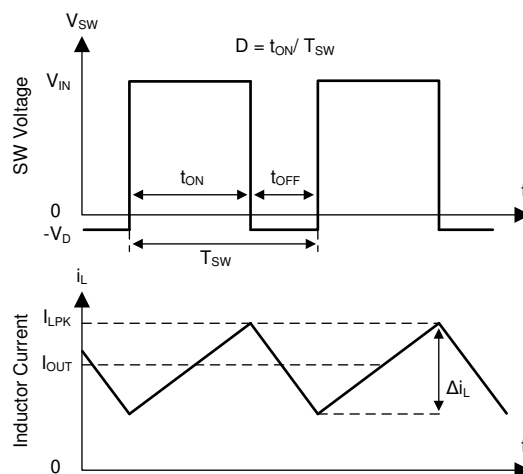

Figure 7-1. SW Node and Inductor Current Waveforms in Continuous Conduction Mode
The following operation description of the LM76005 refers to Section 7.2 and to the waveforms in Figure 7-1. The LM76005 supplies a regulated output voltage by turning on the internal high-side (HS) and low-side (LS) NMOS switches with varying duty cycle (D). During high-side switch on-time, t_{ON} , the SW pin voltage V_{SW} swings up to approximately V_{IN} , and the inductor current, i_L , increases with linear slope. The HS switch is turned off by the control logic. During the HS switch off-time, t_{OFF} , the LS switch is turned on. Inductor current discharges through the LS switch, which forces the V_{SW} to swing below ground by the voltage drop across the LS switch. The regulator loop adjusts the duty cycle to maintain a constant output voltage. The control parameter of a buck converter is defined as duty cycle $D = t_{ON} / T_{SW}$. In an ideal buck converter, where losses are ignored, D is proportional to the output voltage and inversely proportional to the input voltage: $D = V_{OUT} / V_{IN}$.